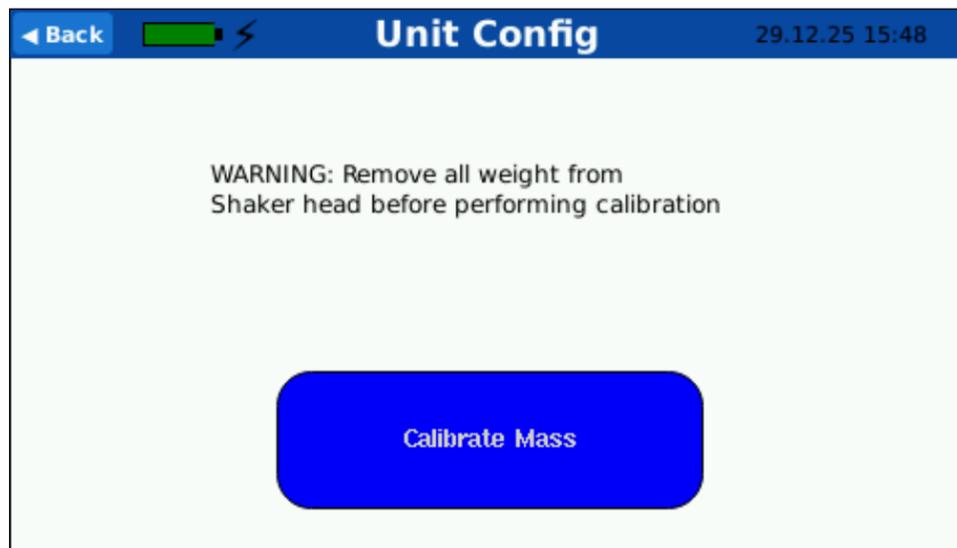

Figure 34
1. On the Unit Configuration screen, select the **Calibrate Mass Load Correction button** to open the Mass Load Correction screen (*Figure 34*).